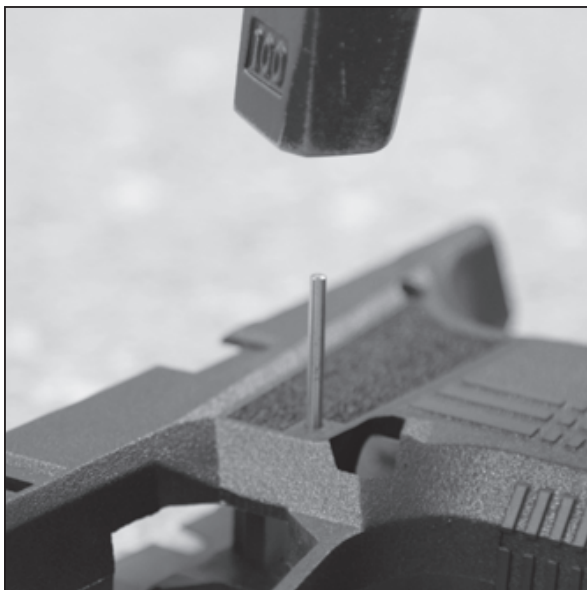

Figure 65 — Partially inserting the magazine catch axle into the frame
1. Insert the magazine catch axle (24) into the frame (1) from either side, tapping it in partially using a hammer (the axle should not protrude inside the frame, see Figure 65).